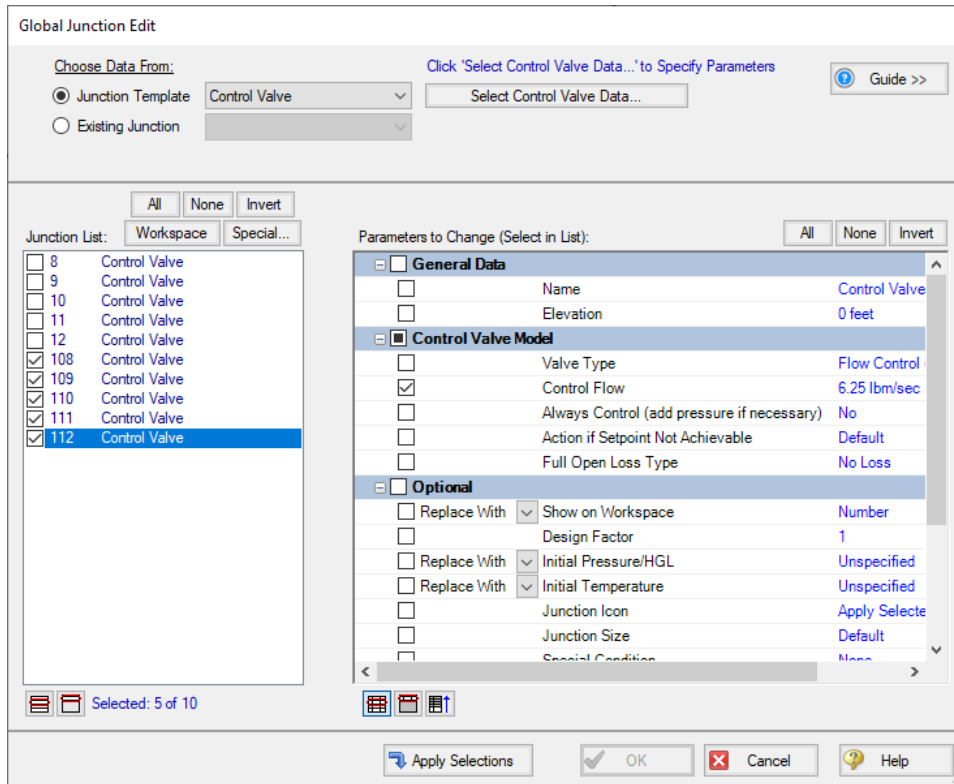

Figure 10: Global Junction Edit is used to change the flows in the homes for the dependent cases
7. Use Global Junction Edit (from the Edit menu) to change all of the control valve setpoints in the DDC from 5 lbm/sec to 6.25 lbm/sec (see Figure 10).